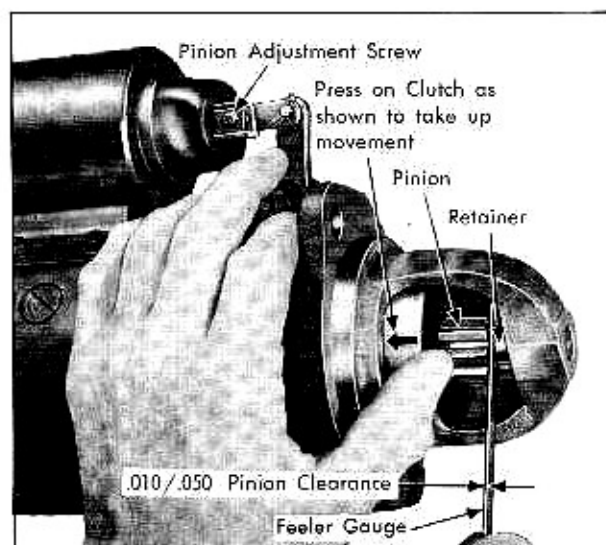

Fig. 11-28 Starter Pinion Adjustment
2. Press on clutch as shown in Fig. 11-28, and take up movement.
(35) Starting Motor Circuit